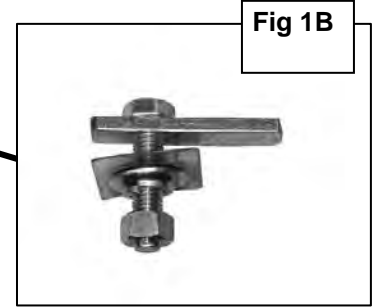

Fig 1B
3. Next, select (1) 12mm Bolt Plate and partially thread a Plastic Retainer onto it. Insert the Bolt Plate into the forward, smaller oval hole and install as per Step 2, (**Fig 1B & 2**).